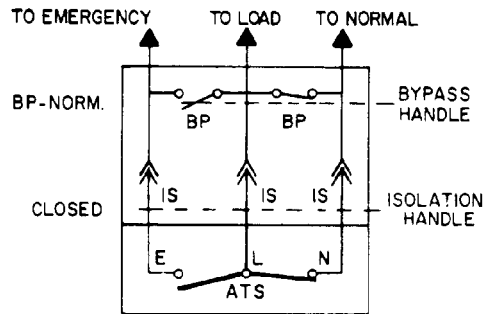

Figure 3-10. Closed position
5. Push in and turn the **Isolation Handle** counterclockwise to the fully *CLOSED* position (Figure 3-10).